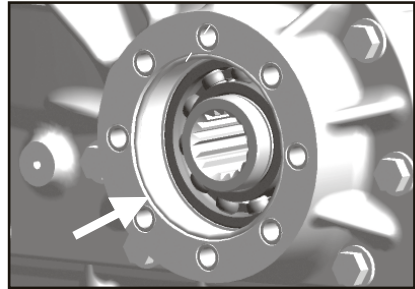

Fig. 7
- a. Install O-Ring as shown in **Fig. 7.**